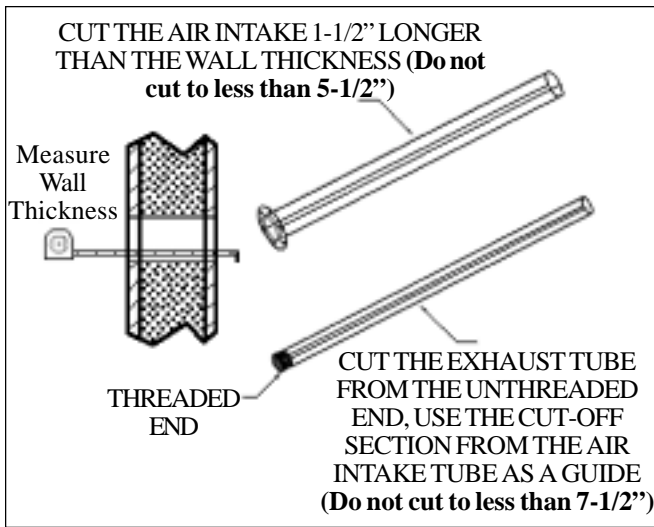

FIGURE 5
- b) Using a measuring tape, measure the thickness of the wall. See Figure 5.
- d) Attach vent exhaust tube to heater by screwing threaded end into inducer outlet. See Figure 5.